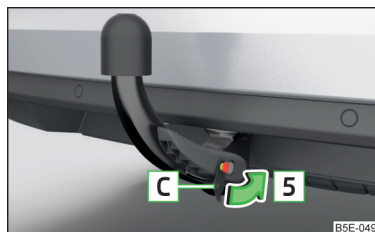

Fig. 293
- Fit and press cap **C** onto the lock in the direction of arrow **5** » Fig. 293.